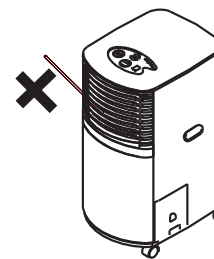

fig. 2
- Do not cover or obstruct the appliance's inlet and outlet grilles (fig. 2).